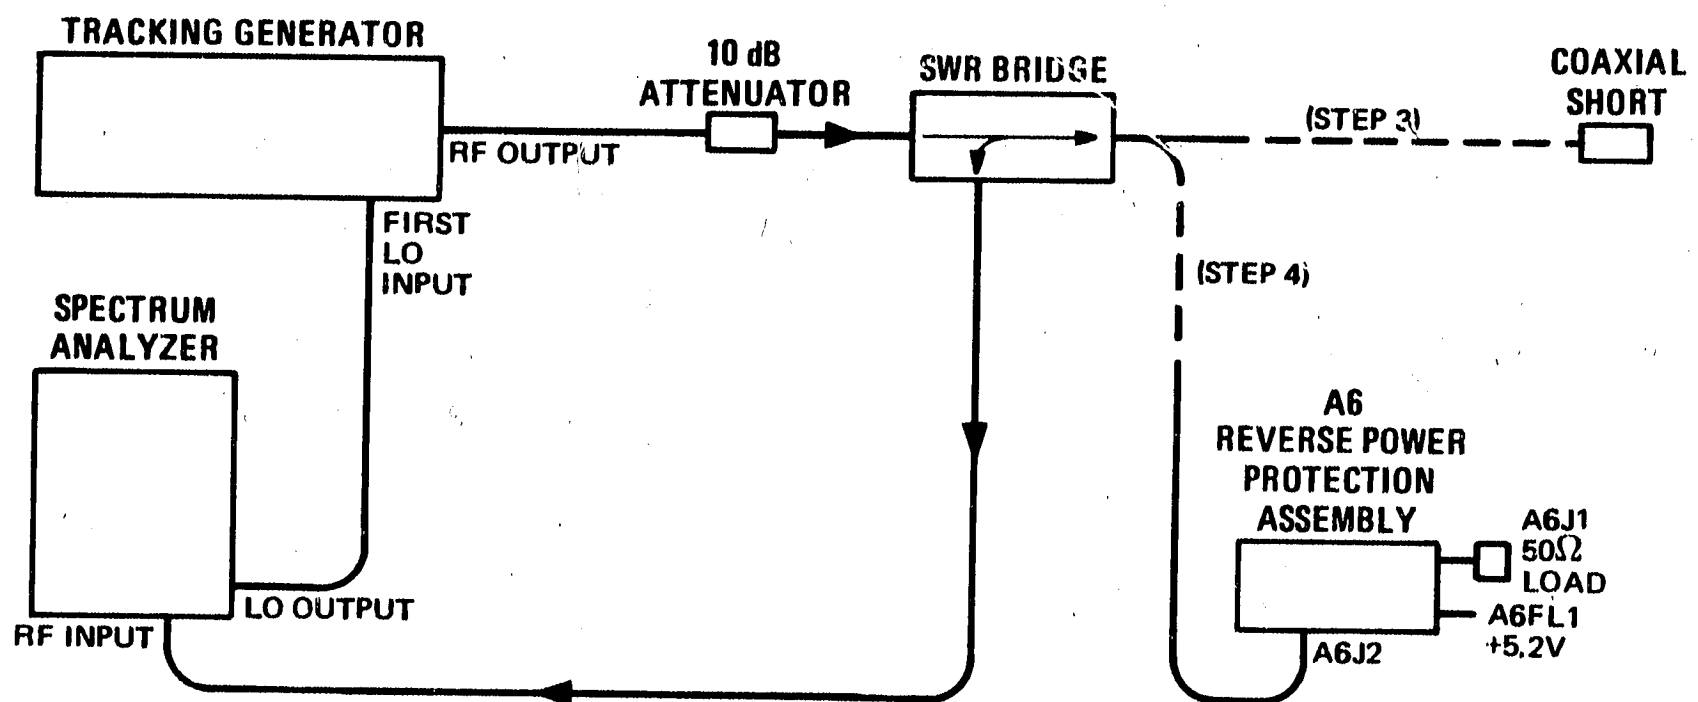

Figure 5-11. Output Impedance Adjustment Setup (Option 003)
3. Connect equipment as shown in Figure 5-11.